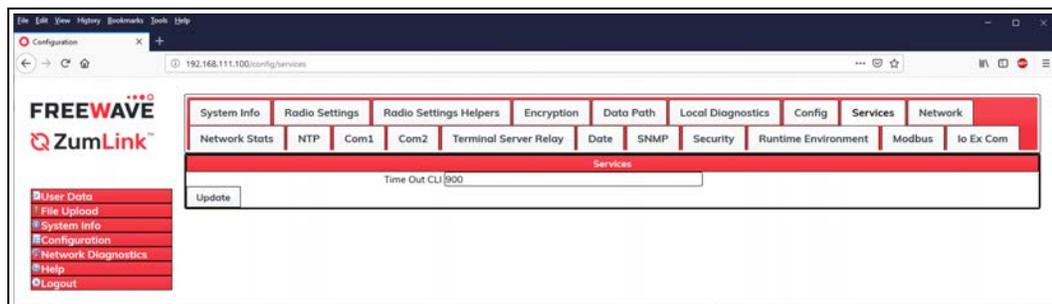

Figure 159: Services window
6. Click the **Services** tab to access the **Services** parameters. Figure 159